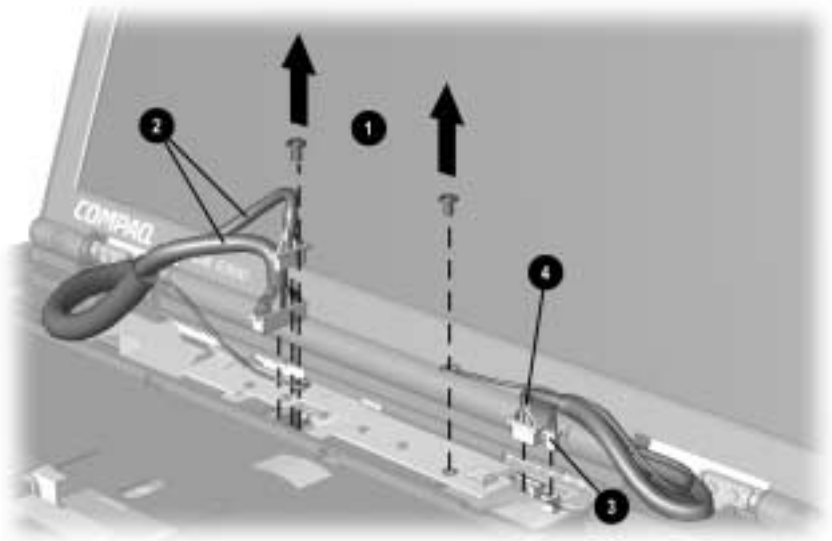

Figure 5-14. *Disconnecting the Display Assembly Cables*
10. Remove the screws ❶ that secure the display ground cables (Figure 5-14).
11. Disconnect the display panel ❷, microphone ❸ and display inverter cables ❹ from the system board.